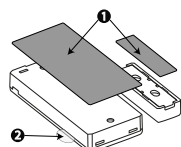

Figure 2: Quick installation
- Peel the release liners off the two strips of double-sided adhesive tape and attach the tape to the back of the device and the magnet. See Figure 2.